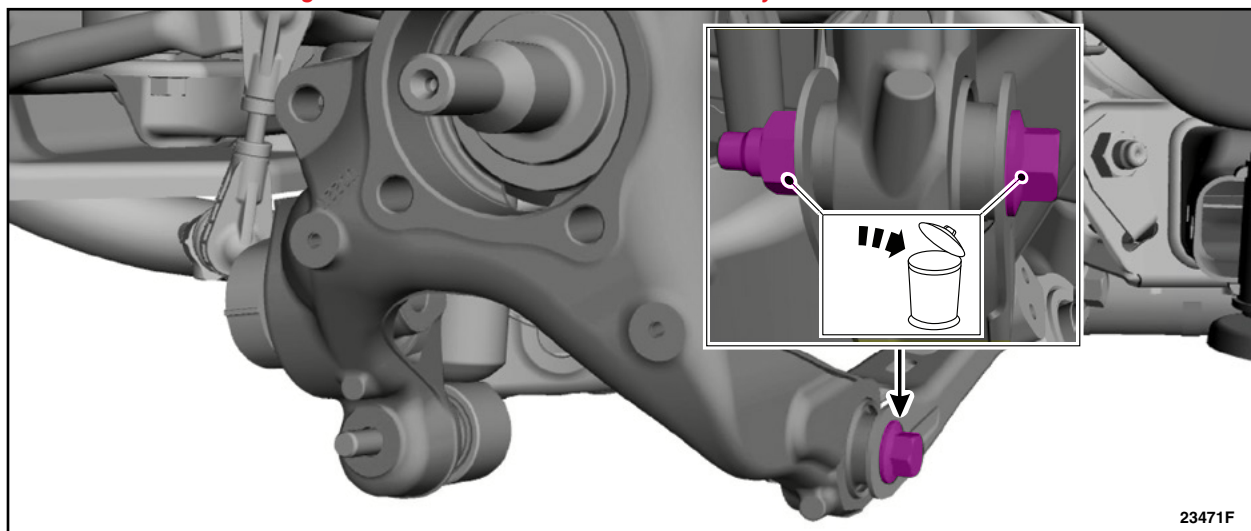

FIGURE 6
10. Remove and discard the *LH rear* toe link-to-wheel knuckle bolt and nut. See Figure 6.